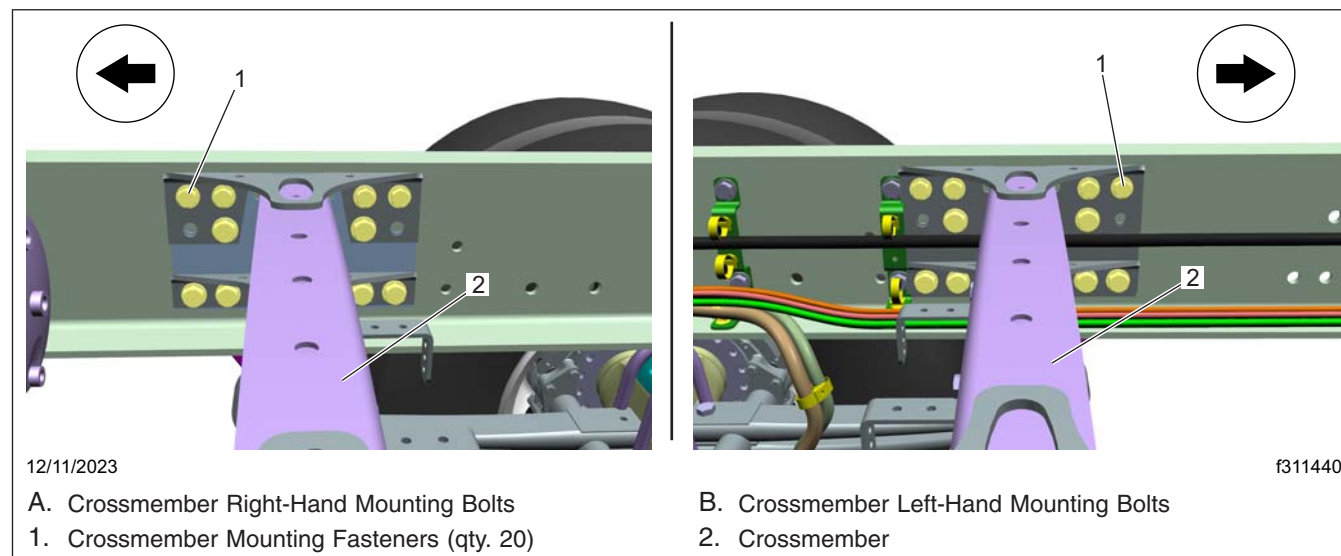

Fig. 7, Crossmember Mounting Fasteners
10. Remove the fasteners that attach the crossmember to both the frame rails. See Fig. 7.